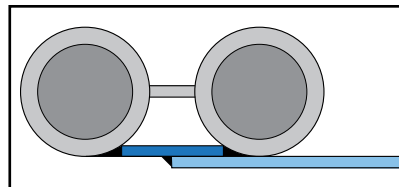

Figure 7 – Upgraded attachment
3. If the attachment is replaced and/or the tube section is removed, utilize an upgraded attachment as shown in Figure 7. This arrangement better distributes the casing load across the first and second sidewall tubes at the generating bank sidewall.